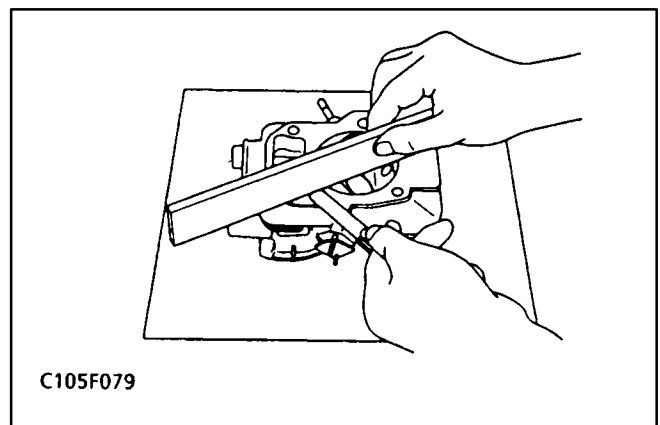

FIGURE 10-19. CYLINDER HEAD SURFACE FLATNESS
2. Place a straight edge on the top of the cylinder head as shown in Figure 10-19. Use a feeler gauge to measure the amount of distortion.